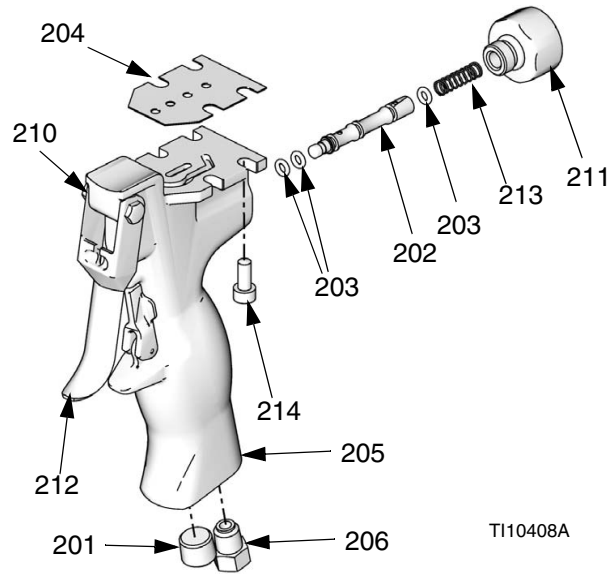

FIG. 7
1. Liberally lubricate o-rings (203) and reassemble. Install spool (202) and spring (213). Torque plug (211) to 125-135 in-lb (14-15 N•m). See FIG. 7.
2. Align the gasket (204) and dispense valve on the top of the handle (205). Torque the four screws (214) evenly to 15-20 in-lb (1.7-2.2 N•m).